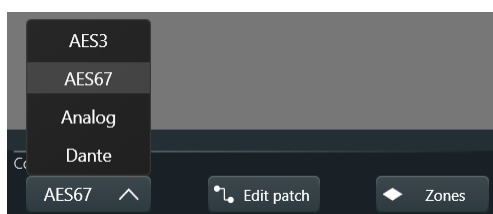

Figure 13 - Priority IN type
4.1 Type of Priority Input source: analog or digital (Figure 13)